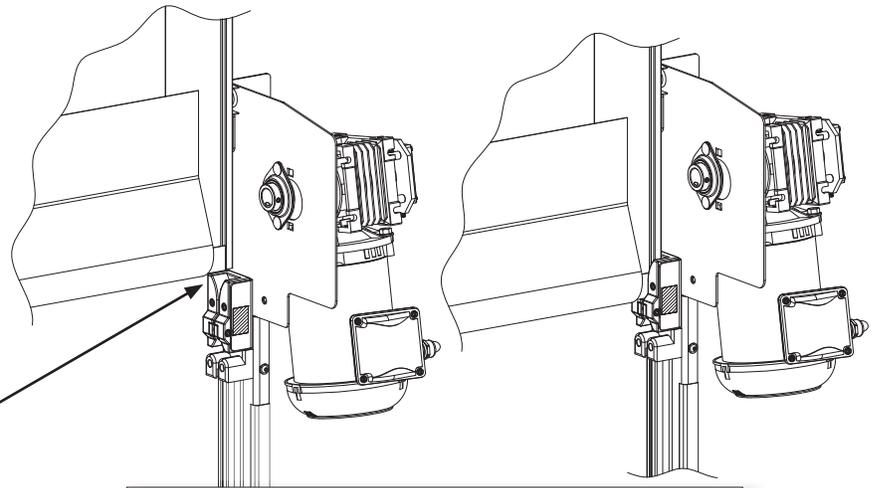

Figure 10: Inserting The Edge Beads into the Re-Feed Blocks.
2. Lower the panel enough to manually insert the Curtain Edge Beads into the Re-Feed blocks on both sides. (Figure. 10)